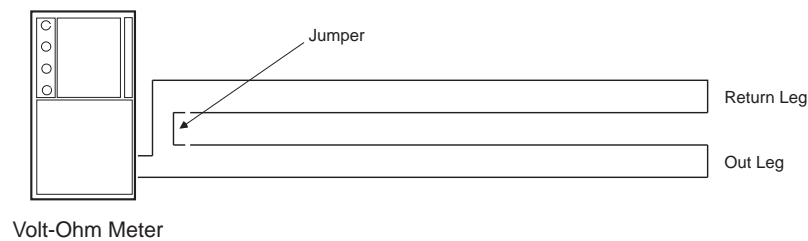

Figure 2-12. Measuring Class A SLC Wiring Resistance
1. Short the “Out” and “Return” legs as shown in Figure 2-12. Measure the resistance using the other two terminating points at the control unit